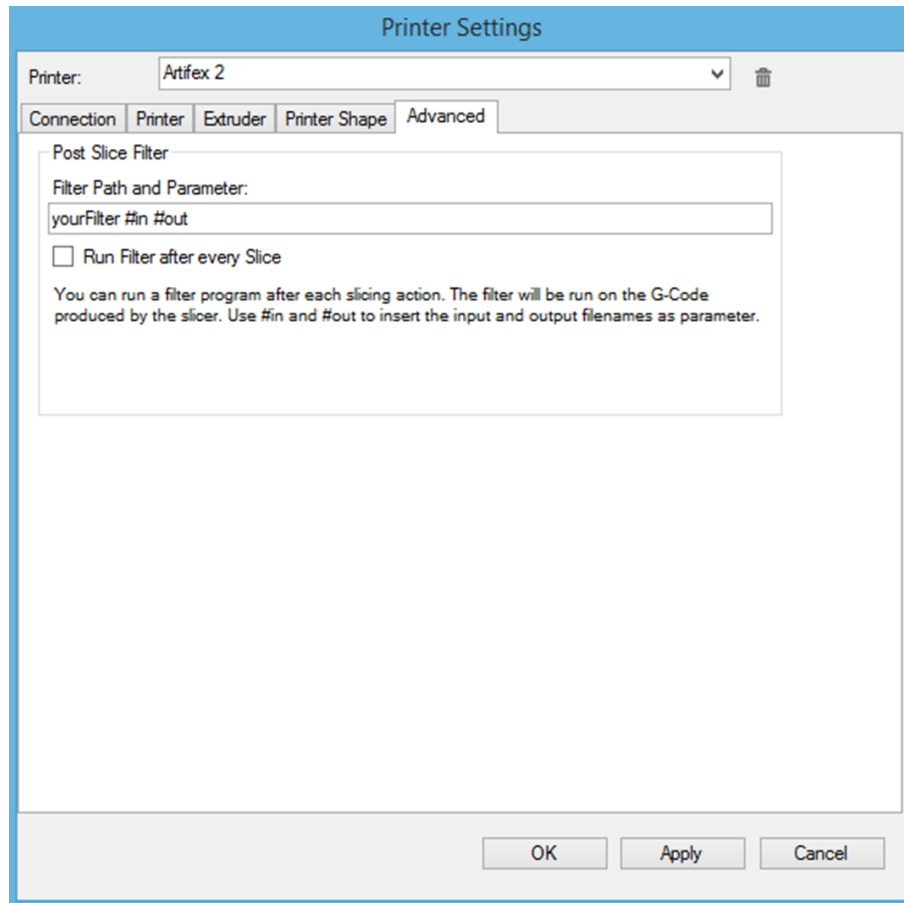

Figure 2.25: Printer Settings: Advanced
- Configure the settings on the “**Advanced**” page. Nothing to change on the page. Just click “OK” and the Repetier-Host is ready to use with your Artifex 3D Printer. (Figure 2.25)